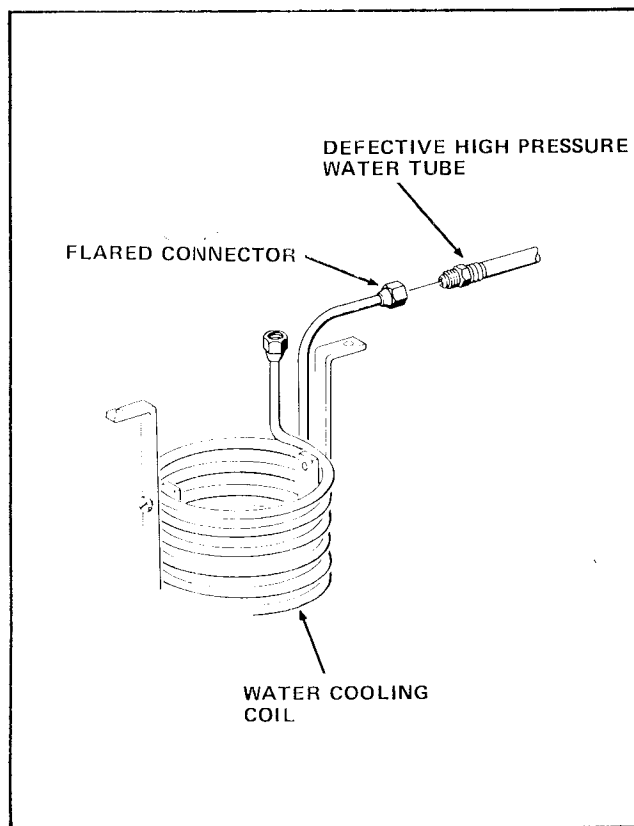

FIGURE 4a
If the Cooling Coil attaches to the High Pressure Water Tube with a Flared Connector; disregard Steps A9 through A11 and simply disconnect the Tube from the Cooling Coil with a wrench. See Figure 4a.
If the Cooling Coil attaches to the High Pressure Water Tube with a Flared connector, disregard Steps B9 through B11 and simply disconnect the Tube from the Cooling Coil with a wrench. See Figure 4a.
2. *Disregard Steps A1,A2,A4, and A6 if the Cooling Coil is attached to the High Pressure Water Tube with a Flared connector. See Figure 4a.*
Disregard Steps B1, B2, B3, and B8 if the Cooling Coil is attached to the High Pressure Water Tube with a Flared Connector. See Figure 4a.